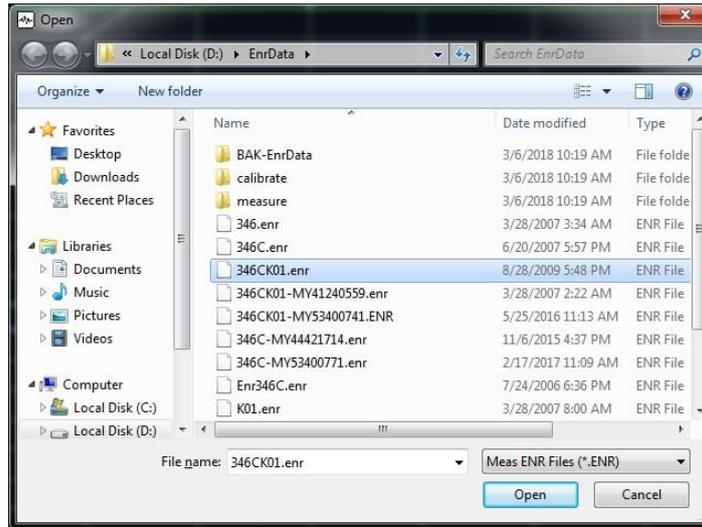

Fig. 3.19 File loading display
Step 2. Press the [Load...] menu key. "Open" dialog box appears, as shown in Fig. 3.19.